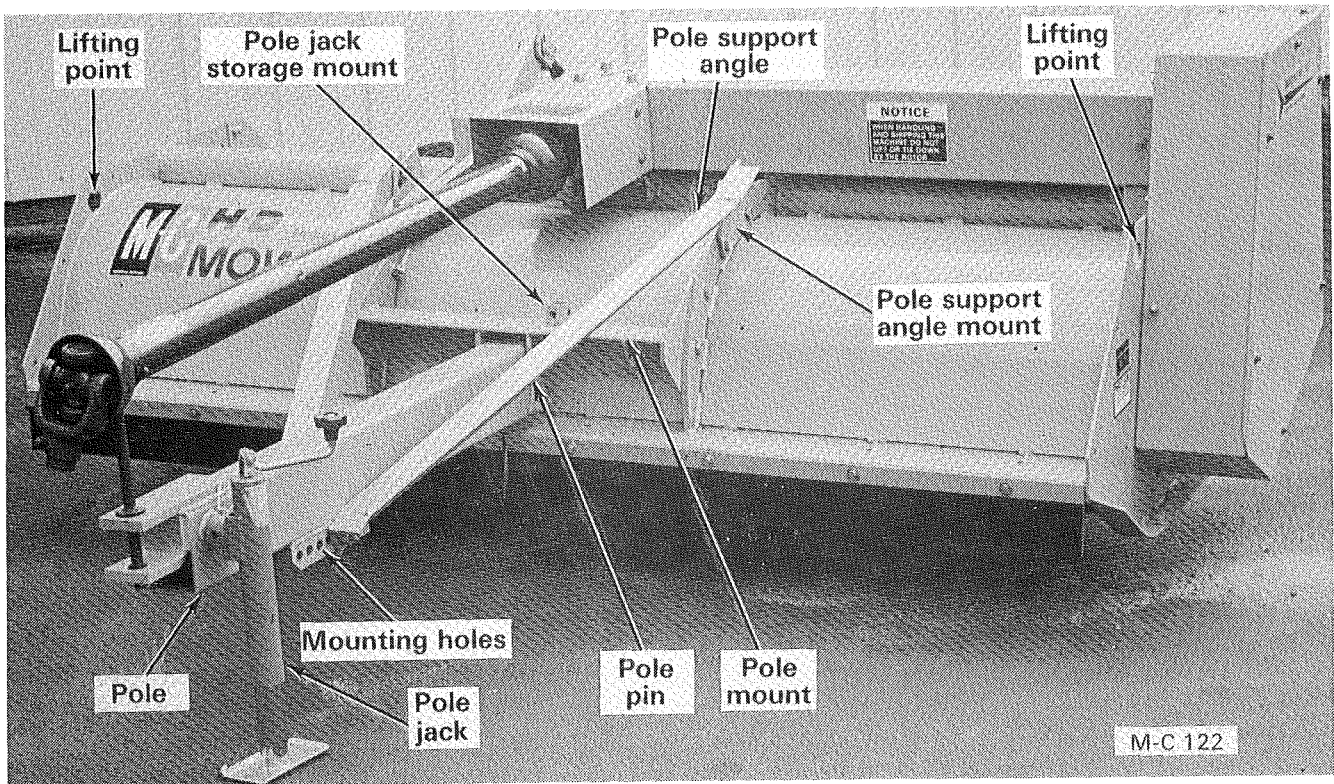

Figure 18
3. The mower must be kept as level as possible from front to rear to insure safe operation and proper mowing action. The mower can be leveled by moving the pole support angles forward or back. There are seven pole support angle mounting holes on each side of the pole and three mounting holes in each pole support angle mount, see Figure 18.